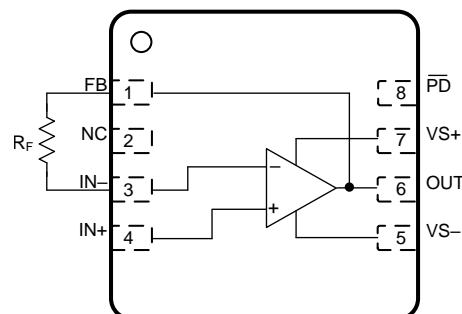

Figure 49.  $R_F$  Connection Between FB and IN- Pins
1. A feedback resistor ( $R_F$ ) can connect between the FB and IN- pin on the same side of the package (see Figure 49) rather than going around the package.